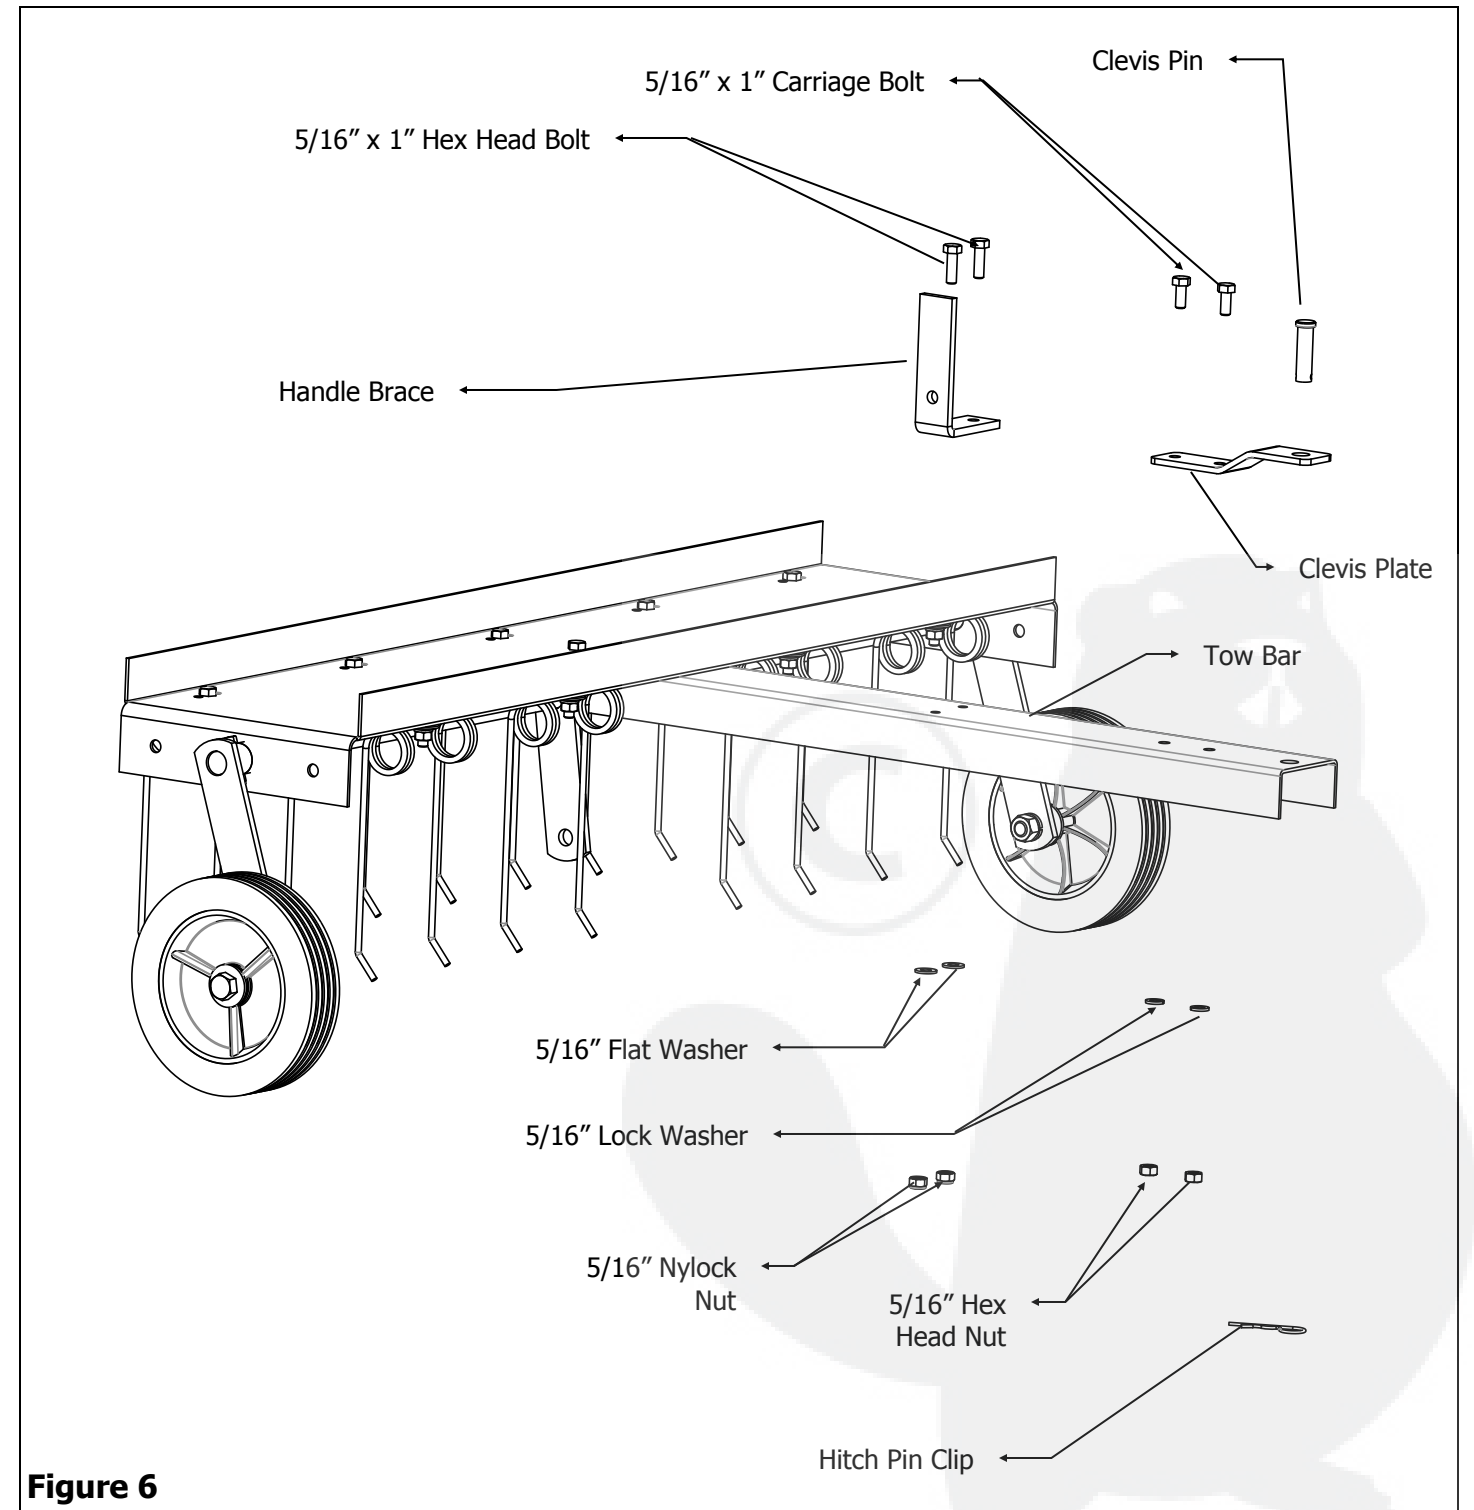

Figure 6
6. Align the two holes of the Tow Bar and Handle Brace as shown. Insert a 5/16" x 1" Hex Head Bolt into one of the holes in the Handle Stop and then through the corresponding hole in the Tow Bar, place a 5/16" Flat Washer on to the bolt, and secure with a 5/16" Nylock Nut. Repeat process on the next hole. Insert a 5/16" x 1" Carriage Bolt into one of the two smaller holes on the Clevis Plate and then into the corresponding hole in the Tow Bar, place a 5/16" Lock Washer onto the bolt and secure with a 5/16" Hex Head Nut. Repeat process on the next hole. Insert the Clevis Pin through the larger front hole of the Clevis Plate and through the hole in the Tow Bar and secure with the Hitch Pin Clip. See Figure 6.